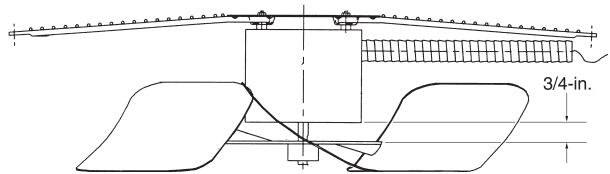

Fig. 28 - Condenser-Fan Adjustment C07204
Condenser-Fan Adjustment (Fig. 28)
3. Adjust fan height as shown in Fig. 28.